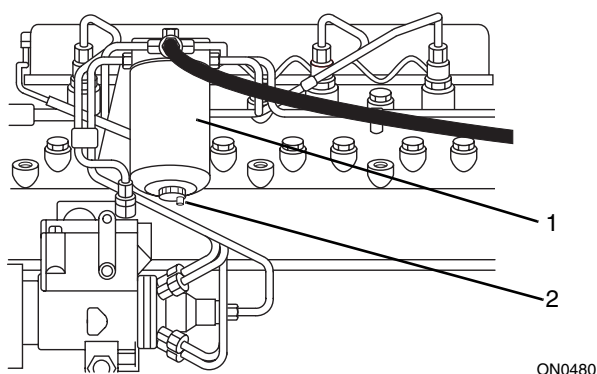

Figure 10-16 Fuel Filter
2. Clean outside surfaces of the filter assembly (Fig. 10-16, 1).
3. Open the drain valve (Fig. 10-16, 2) on underside of filter, and drain all fuel in the filter into a suitable container.